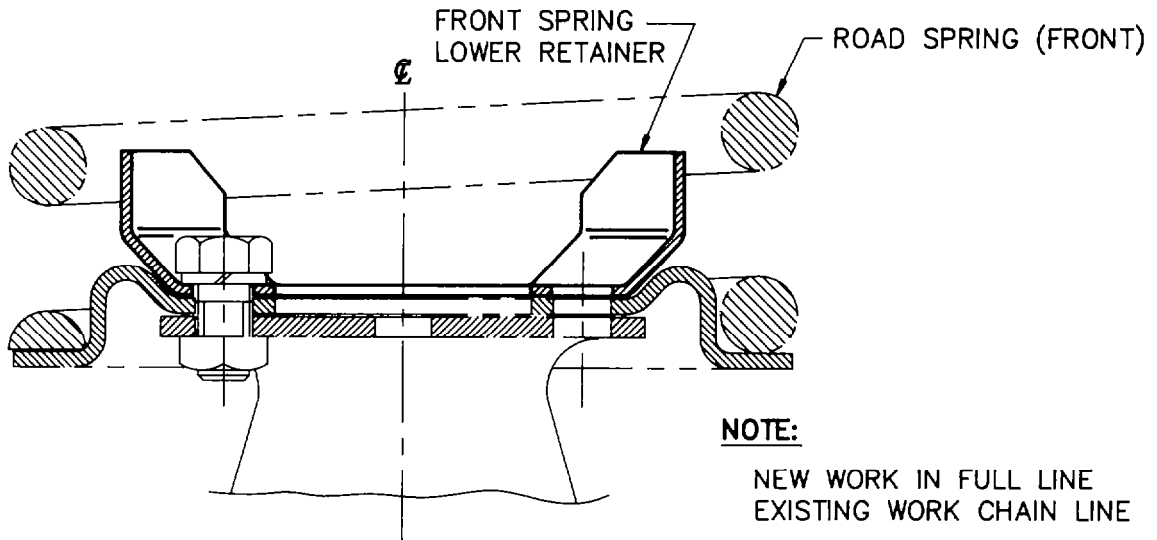

Figure 1 - Front Lower Spring Seat Retainer
11. Proceed as follows with reference to Figure 1 for the retainer position:
- b. Remove the lower spring seat retaining bolts, pass the new lower retainers (item 1 from Table 3) through the spring coils and using the seat retaining bolts secure the retainers to the spring seat.